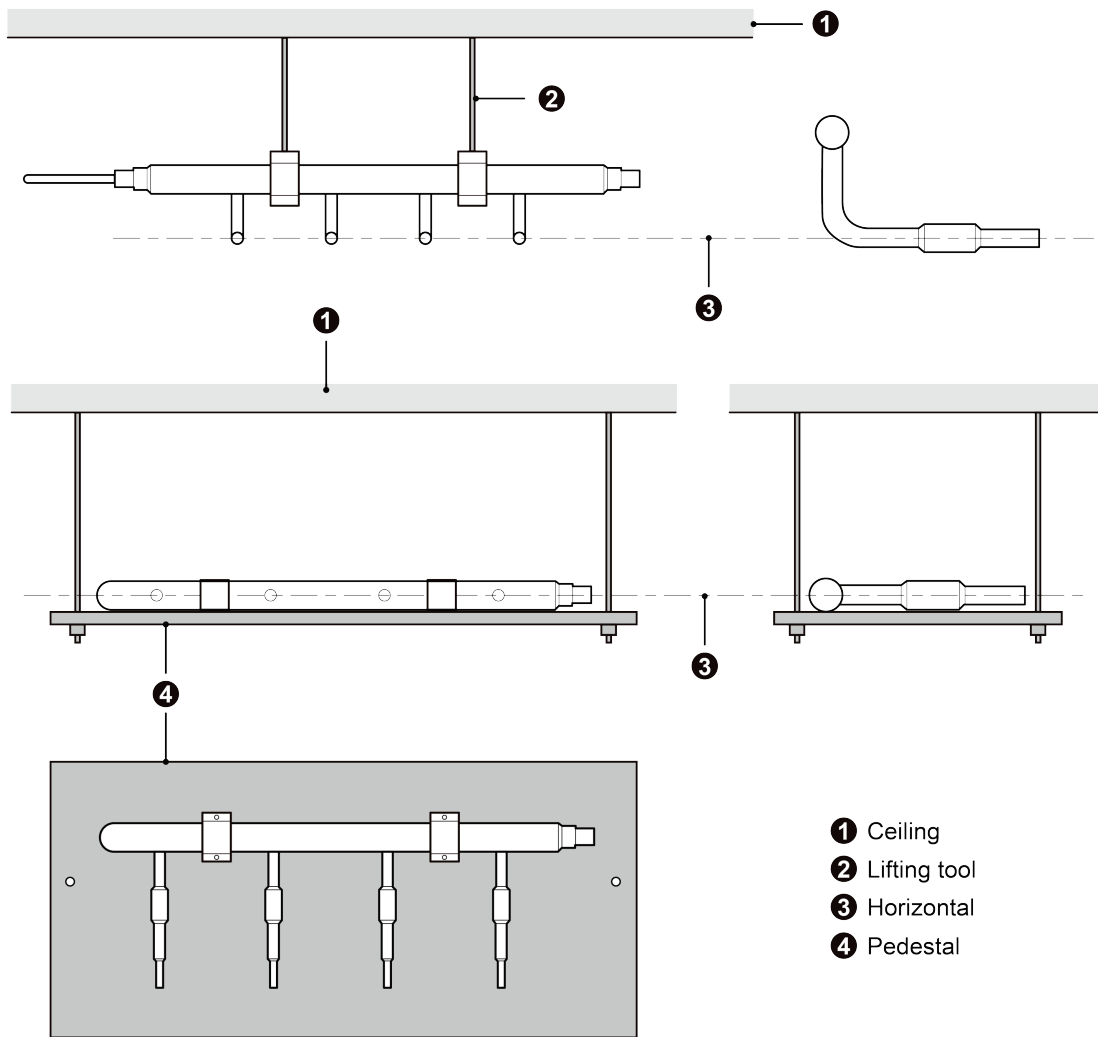

Fig.4.3.7
(5) Suspend the header to the ceiling, and be sure to install the T-type manifold so that the outlet pipes are horizontal at the lower side. See Fig.4.3.7.